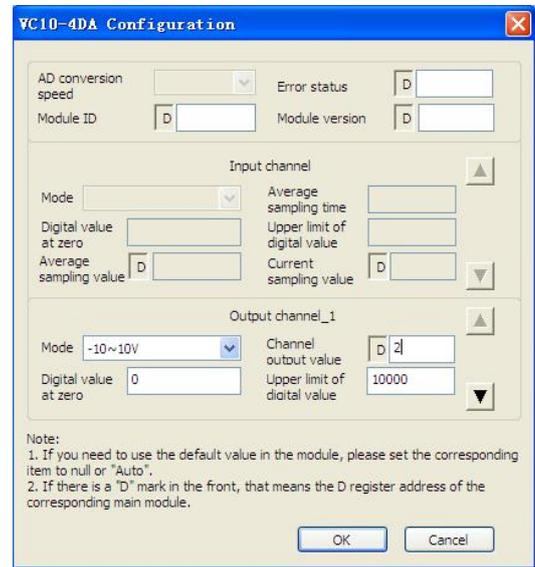

Figure 4-2 Changing CH1 characteristic
7. BFM#4094: module software version information, displayed automatically as **Module Version** in **VC10-4DA Configuration** dialogue box of the host software, as shown in Figure 4-2.
The channel characteristic setting is shown in figures 4-2 ~ 4-4. For details, see VC10 Series PLC Programming Manual.